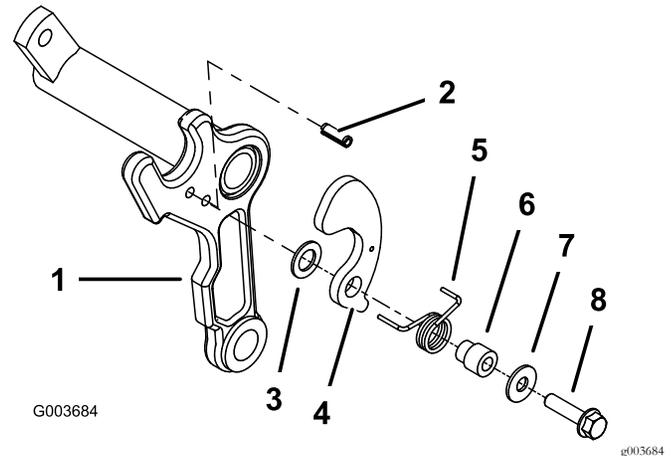

Figure 6
- Install a roll pin into the lower hole in the appropriate side of each cutting-unit carrier frame (Figure 6).
- On the same side of the carrier frame that the roll pin is installed, mount a plastic washer, basket bracket, torsion spring, basket collar, flat washer (3/8 x 7/8 inch), and bolt (5/16 x 1-1/4 inches); refer to Figure 6.